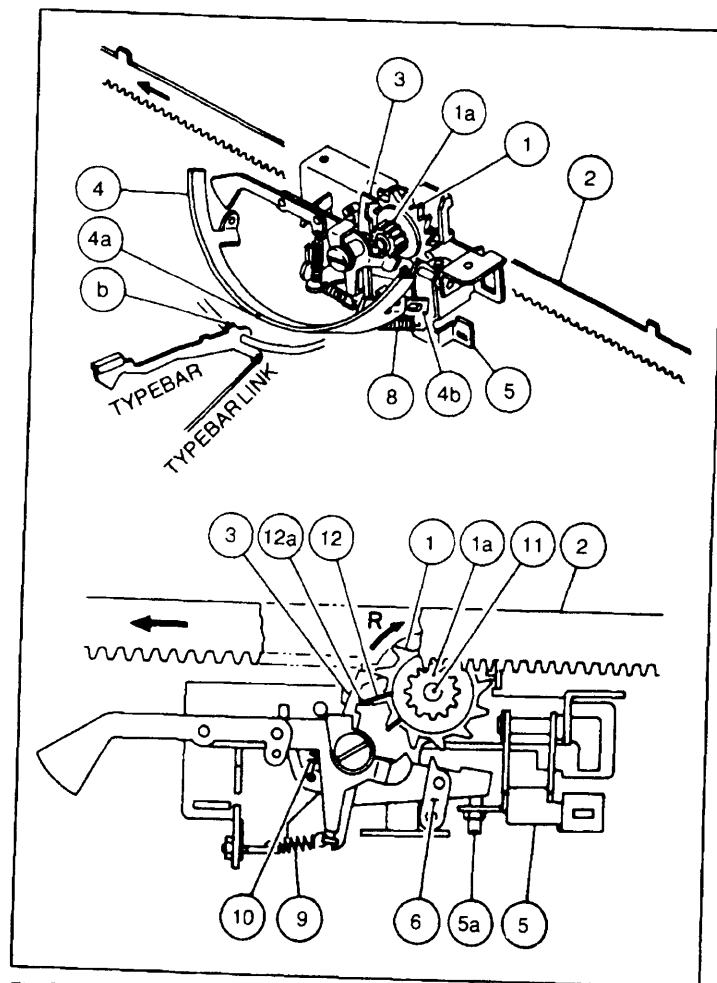

Fig. 2-8. This is the escapement mechanism of the Olympia Model B-12, taken from the Olympia service manual (courtesy of OLYMPIA USA INC.).
For yet another escapement mechanism, see Fig. 2-8. When the key lever is depressed, the typebar is operated in the direction of the platen, and then the side (b) of the typebar pushes the side face (4a) of the segment universal bar. The tip of the bottom part (4b) of the segment universal pushes the connection (5), and then